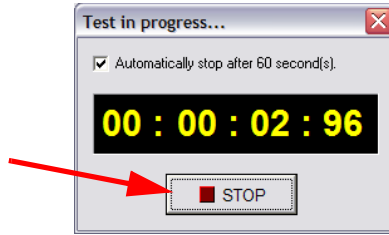

Figure 4-9: Click the Test **STOP** Button After Setting Your Desired Pump Pressure
- Click the **Stop** button (Figure 4-9) to halt the test.